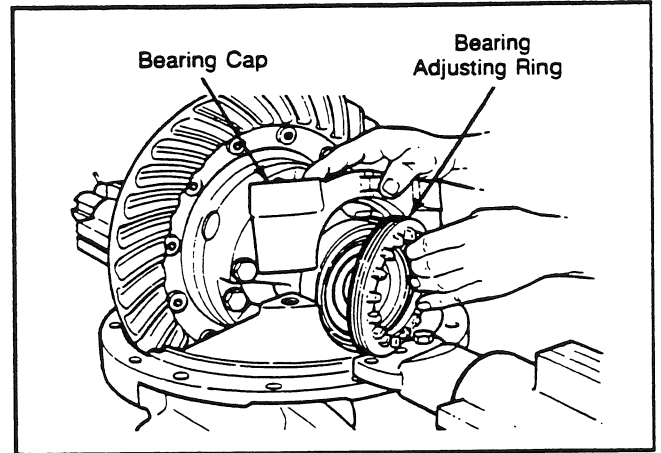

Fig. 12
5. Remove the bolts and washers retaining the two differential bearing caps to the carrier. Remove the bearing caps and adjusting rings from the carrier (see Fig. 12).